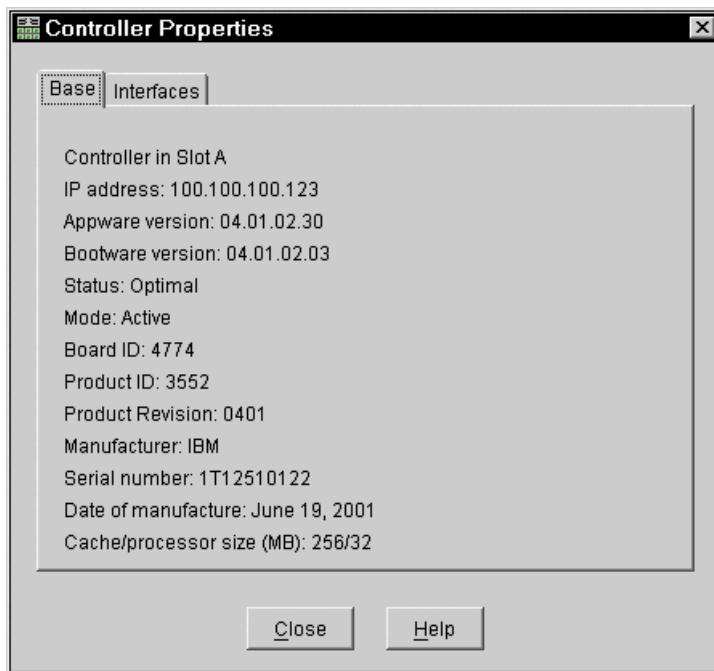

Figure 7-3 Controller Properties before update
5. For a visual check of the current controller firmware, etc., right-click each controller in the physical view in turn and select **Properties**. You see a Properties window like the example in Figure 7-3. Note that all this information is saved in the profile.